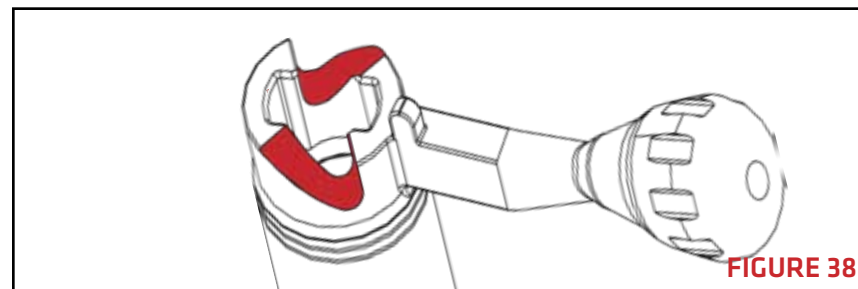

FIGURE 38
7. With the firing pin assembly removed, use TW25b Grease to lightly lubricate both cam slots on the bolt body. These are highlighted in red (**FIGURE 38**).